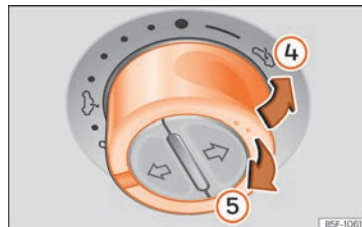

**Fig. 111** On the interior roof lining: press the switch and pull on it to raise and lower the roof.
- *Glass roof*: within approx. 5 seconds of the activation of the anti-trap function, keep the control pulled backwards »» Fig. 111 (arrow ⑤) until the roof is completely closed.